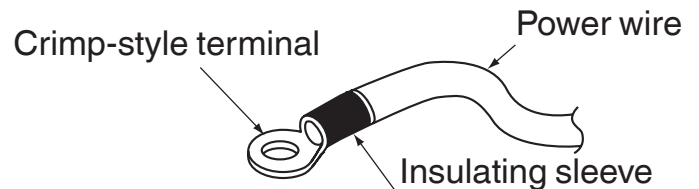

**FIGURE N.5**
3. Be sure to use crimp-style terminal with insulating sleeves for connections. (Refer to Figure N.5)